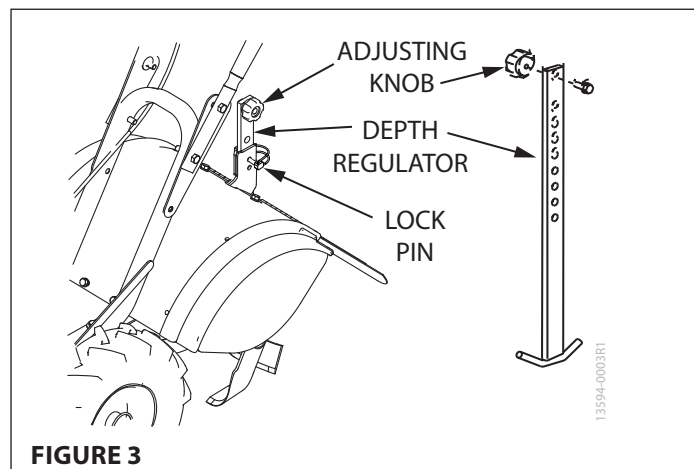

FIGURE 3
1. Locate depth regulator and lock pin. **SEE FIGURE 3**
2. Unscrew adjusting knob from the top of the depth regulator and slide depth regulator up into vertical slot at the rear of the tine shield. **SEE FIGURE 3**